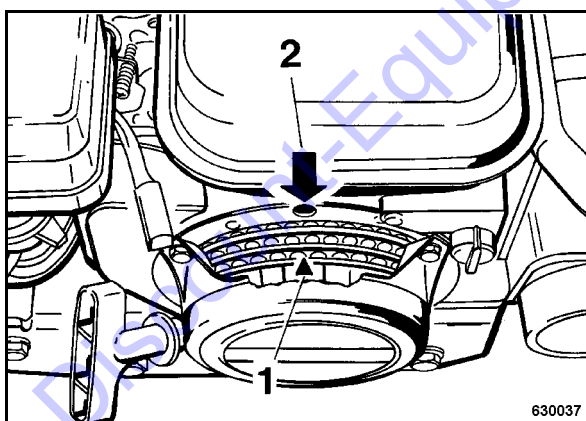

Fig. 79
- For this purpose align triangle mark (1) (Fig. 79) on the starter disc to the top bore (2).